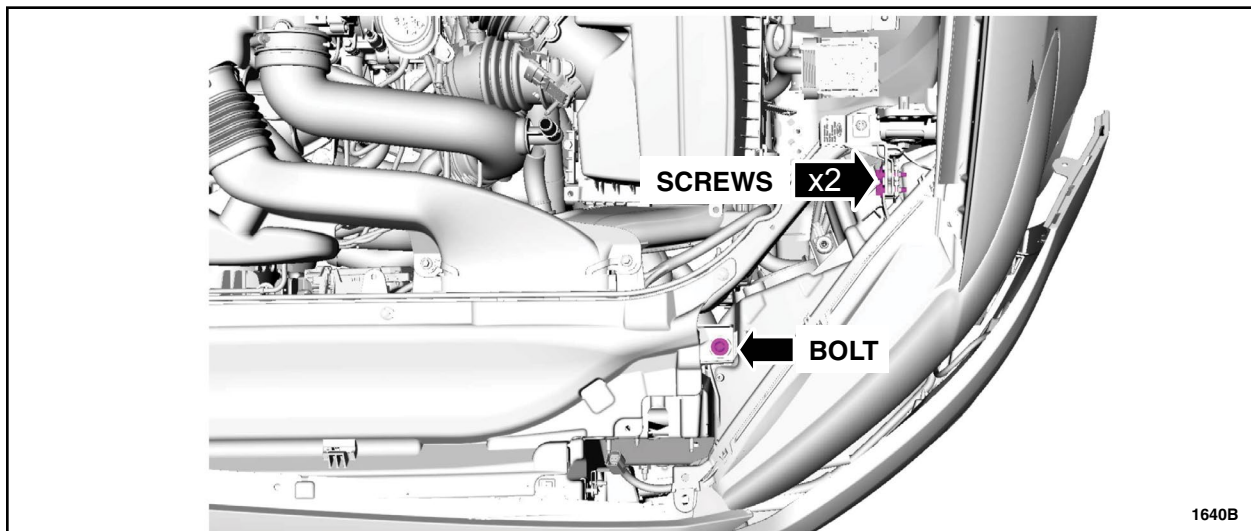

FIGURE 11
13. Tighten the bolt and screws for each headlamp assembly to 32 lb.in (3.6 Nm). See Figure 11.